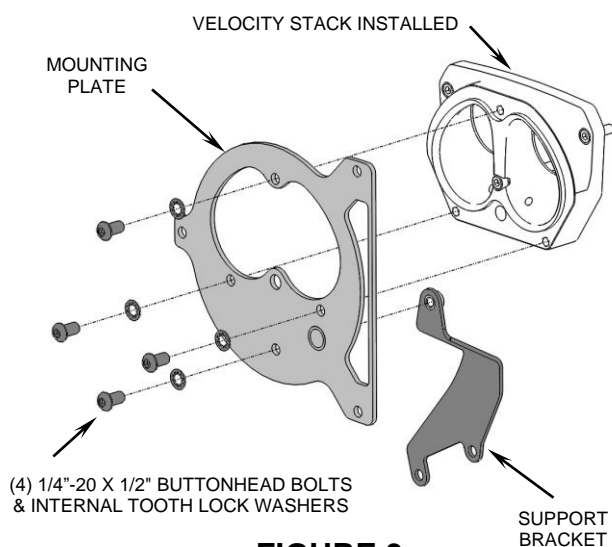
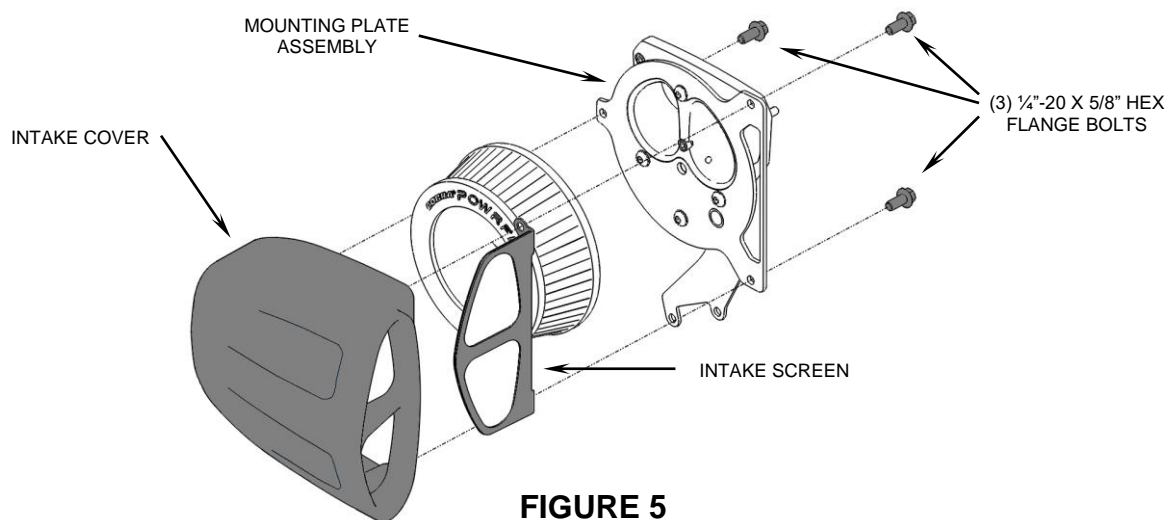

FIGURE 3
FIGURE 5
5. Position the mounting plate over the velocity stack (with the welded tube toward inside) and secure using (3) supplied 1/4"-20 x 1/2" buttonhead bolts and (3) internal tooth lock washers, finger tighten only. See Figure 3.
6. Remove the two allen bolts at the base of the cylinders and install the supplied support bracket. Secure the support bracket to the mounting plate using the (1) remaining 1/4" buttonhead bolt and internal tooth lock washer. See Figure 3 & 4.
7. Fully tighten the (4) 1/4"-20 buttonhead bolts (Steps 5 & 6) and the two stock allen bolts (Step 6).
9. Insert the intake screen into place so the holes in the bent tabs align with the threaded bosses in the intake cover, see Figure 5 for orientation. Place the supplied venturi filter into the intake cover.
10. Place intake cover over the mounting plate and align the mounting holes to the threaded bosses. Insert the (3) supplied 1/4" hex flange bolts and tighten the mounting plate to the intake cover. See Figure 5.